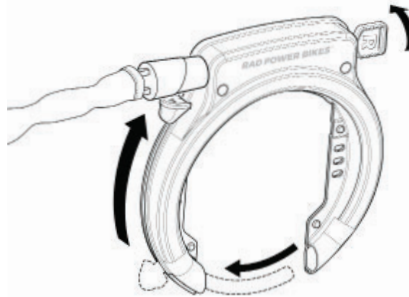

Figure 13: Unlock the shackle, pinch hazard
- b. First, turn the key clockwise to retract the thumb lever and shackle (Figure 13).